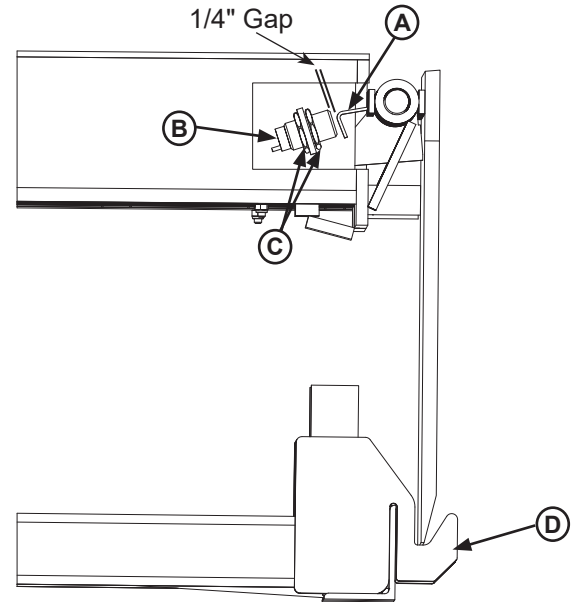

Figure 33
Stored - Lip plate is resting in the lip keepers (**D**). In the stored position, target (**A**) is directly in front of the sensor (**B**). See **Figure 33**.
2. When the sensor and target are positioned correctly, the target should be parallel to the face of the sensor with a gap of 1/4", when the lip is in the stored position. See **Figure 33**.